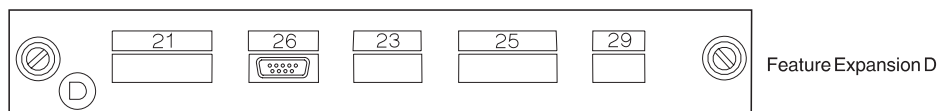

Figure 142. Feature Expansion D
1. Mark an X on Figure 142 to indicate the socket in which the device cables are attached to Feature Expansion D: